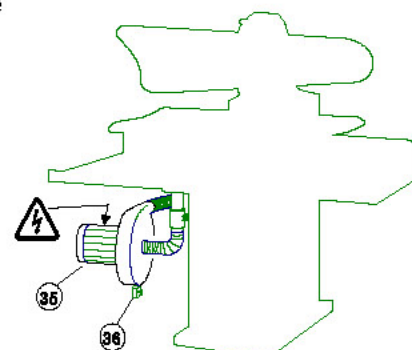

Figure 2: Vacuum unit
- Remove cover electrical connection of the blower (35, see figure 2).
(see figure 2) (35).
- **Warning!:** Drain collected water daily (36)!
- Check the working of the safety bar (3):
- Operate the head-lever (6), by which the press closes.
- The upper pressing shoe (4) will return into its starting position IMMEDIATELY.
- Press the reset-switch (32).
- **Drain daily the collected water! (36)**